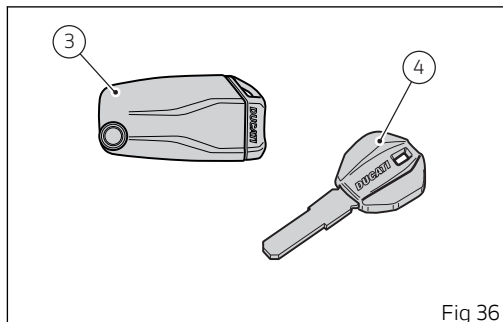

Fig 36
Key-Off can be performed by pressing button (7) on the Hands free lock (1, Fig 32), also without the key (4, Fig 36).